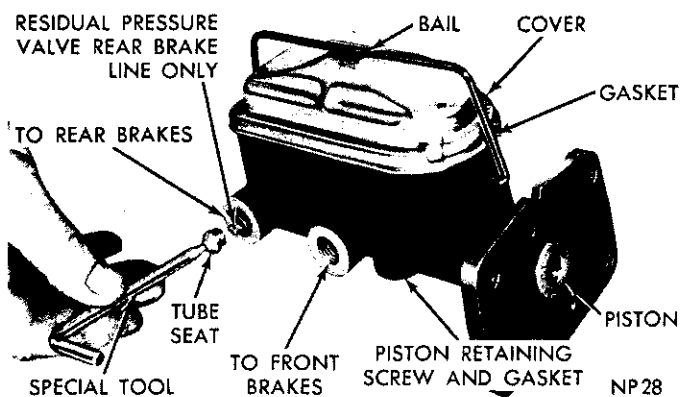

Fig. 2—Removing Tube Seats
(1) Press bail to one side and remove cover and gasket. Empty brake fluid from reservoirs.
(2) Remove piston retaining screw and gasket (Fig. 2), then slide rear piston assembly out of cylinder bore.
(3) Upend master cylinder and tamp (open end down) on bench to remove front piston and spring. If front piston sticks in bore of cylinder, use air pressure to force piston out of cylinder. **New cups must be installed at reassembly if air pressure is used.**
(4) Remove front piston compression spring from bore.
(5) Using Tool T109-178 (or an easy out) remove tube seats by threading tool firmly into seat, tap tool and seat out of cylinder body. (Fig. 2). Discard seats.